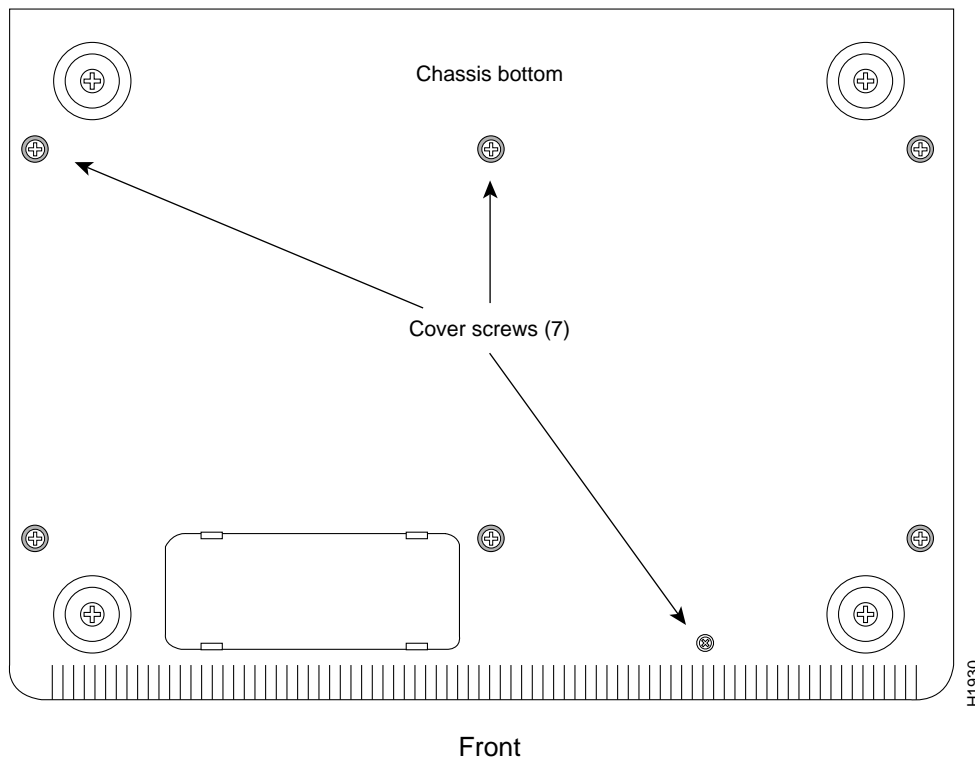

Figure 2 500-CS Cover Screws
The chassis cover is secured by seven Phillips screws, which are recessed in the underside of the chassis (see Figure 2). Perform the following steps over a bench or table so that you don't lose any screws when they drop out.
- Step 3** Locate the seven recessed cover screws, shown in Figure 2.